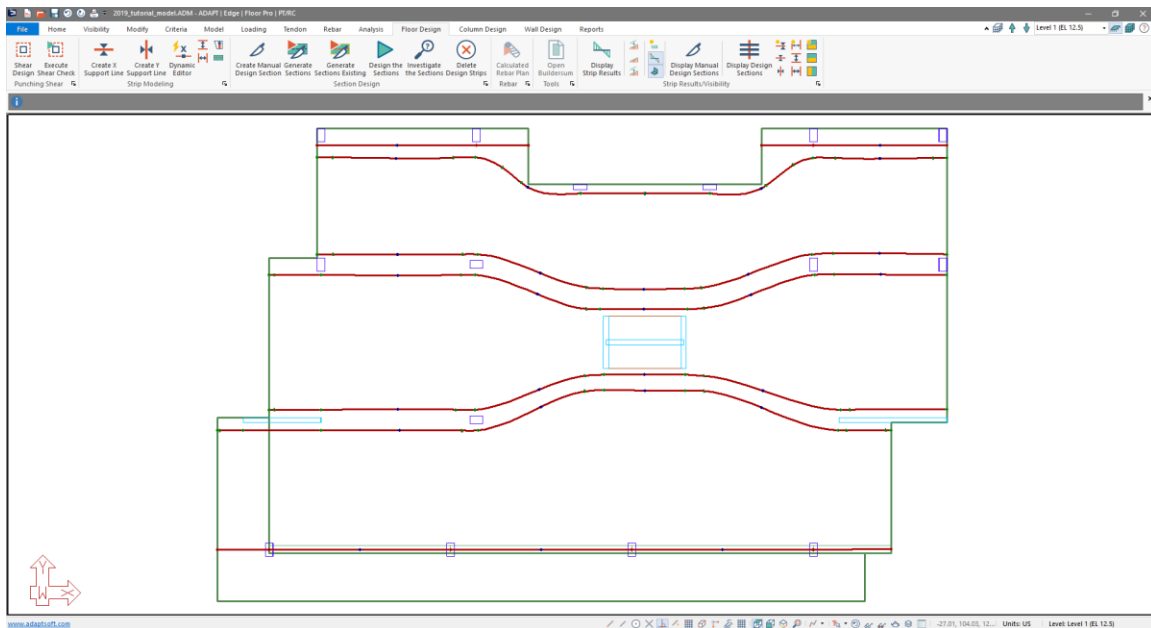

Figure 9-56
- Click on the *Top View*  icon in the **Bottom Quick Access Toolbar**. This will bring you to the view of the model shown in **FIGURE 9-56**.